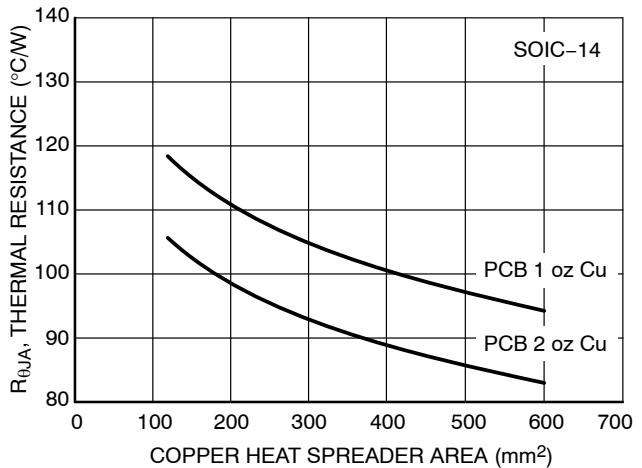

Figure 28. Thermal Resistance vs PCB Copper Area
Since TJ is not recommended to exceed 150°C, then the NCV8668 soldered on 645 mm2, 1 oz copper area, FR4 can dissipate up to 1.3 W for SOIC-14 package when the ambient temperature (TA) is 25°C. See Figure 28 for RθJA versus PCB area. The power dissipated by the NCV8668 can be calculated from the following equations: